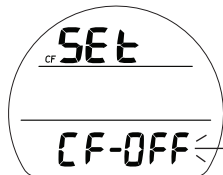

Fig. 32 - SET CF
Set Conservative Factor (CF), information includes (Fig. 32):